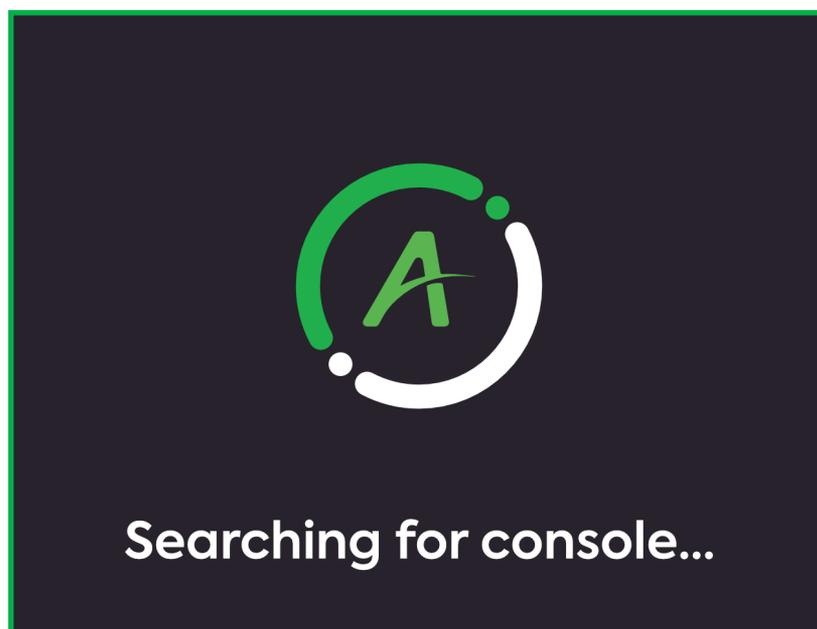

FIGURE 11
4. A screen indicating that the controller is looking for a console will appear. If the controller cannot find the console after 1 minute, move the controller closer to the console. Once the controller found the console, an identification procedure will appear on the display. (Figures 11, 12)